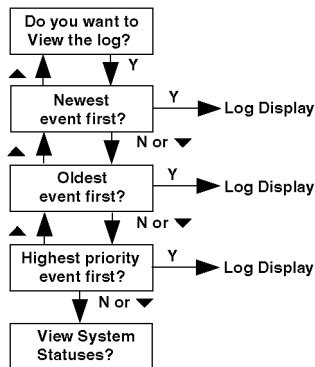

Fig. 4 'MINERVA' Controller - View Log Menu
- 1) Either select the 'View Log' option from the Main Menu. The menu shown in Fig. 4 will be displayed. The menu options are selected as described in section 3.4.1. or,